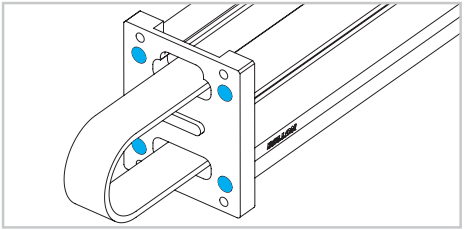

Fig. 15
- 15) Remove the connection plate untightening the 4 screws (Fig.15).